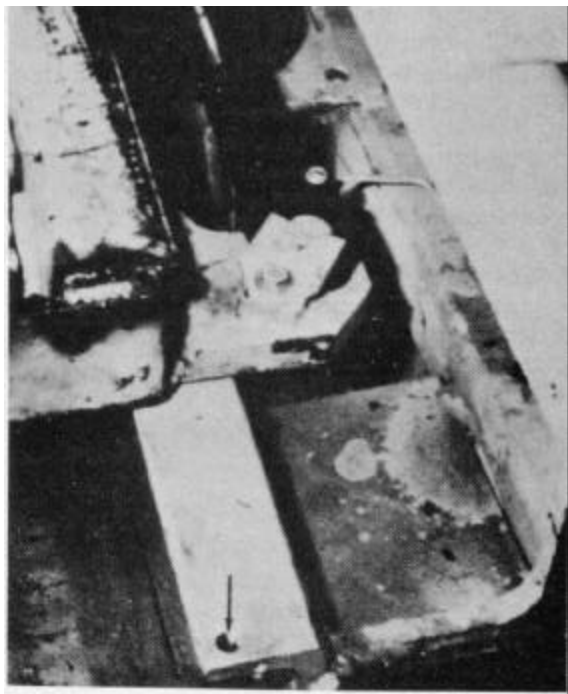

Figure 5-106
12. Remove the two allen head screws from the upper flanges of the fixed channel weldment. Use a 3/8 allen wrench (Fig. 5-106).
13. Remove the umbilical hose assembly support tray. Use a 3/16 inch allen wrench to unscrew the three (3) round head allen screws.
14. Unscrew and remove the hex head cap screw, lockwasher and flat washer that fix the shift cylinder pin to the shift cylinder rod clevis (Fig. 5-106). Use a 9/16 inch wrench. Pry the pin free of the shift cylinder rod clevis.